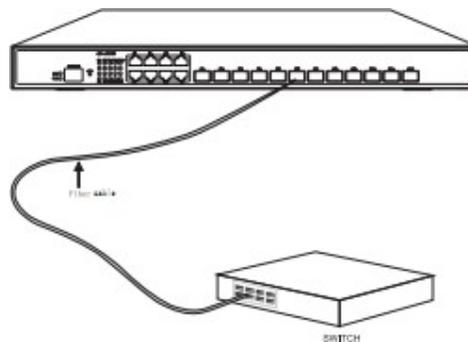

Figure 3-6 Connecting the 10G SFP+ port and other Ethernet terminals
**Caution:** The switch shown in figure 3-6 does not represent the material SFC4200A.
SFC4200A provides 8 10/100/1000Base-T ports. Each port has its corresponding indicator: 1-8. The indicators are used to indicate the LINK/ACT state. The ports can connect other Ethernet terminal devices through the UTP port and the direct-through or cross network cable. The numbering order of the pins in the UTP port is the same as that in the console port. See figure 3-6.